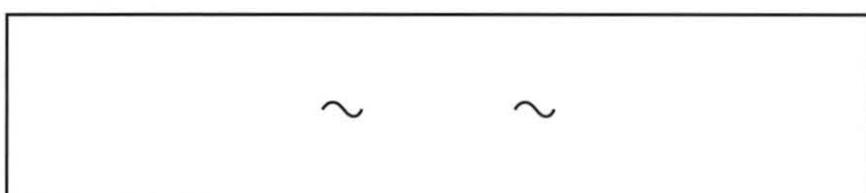

Figure 10. Line Symbol
6. Identify the line symbol shown in figure 10.